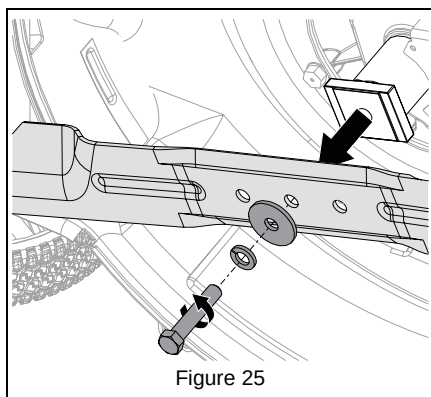

Figure 25
4. Remove hardware retaining and remove blade. Retain hardware. See Figure 25.